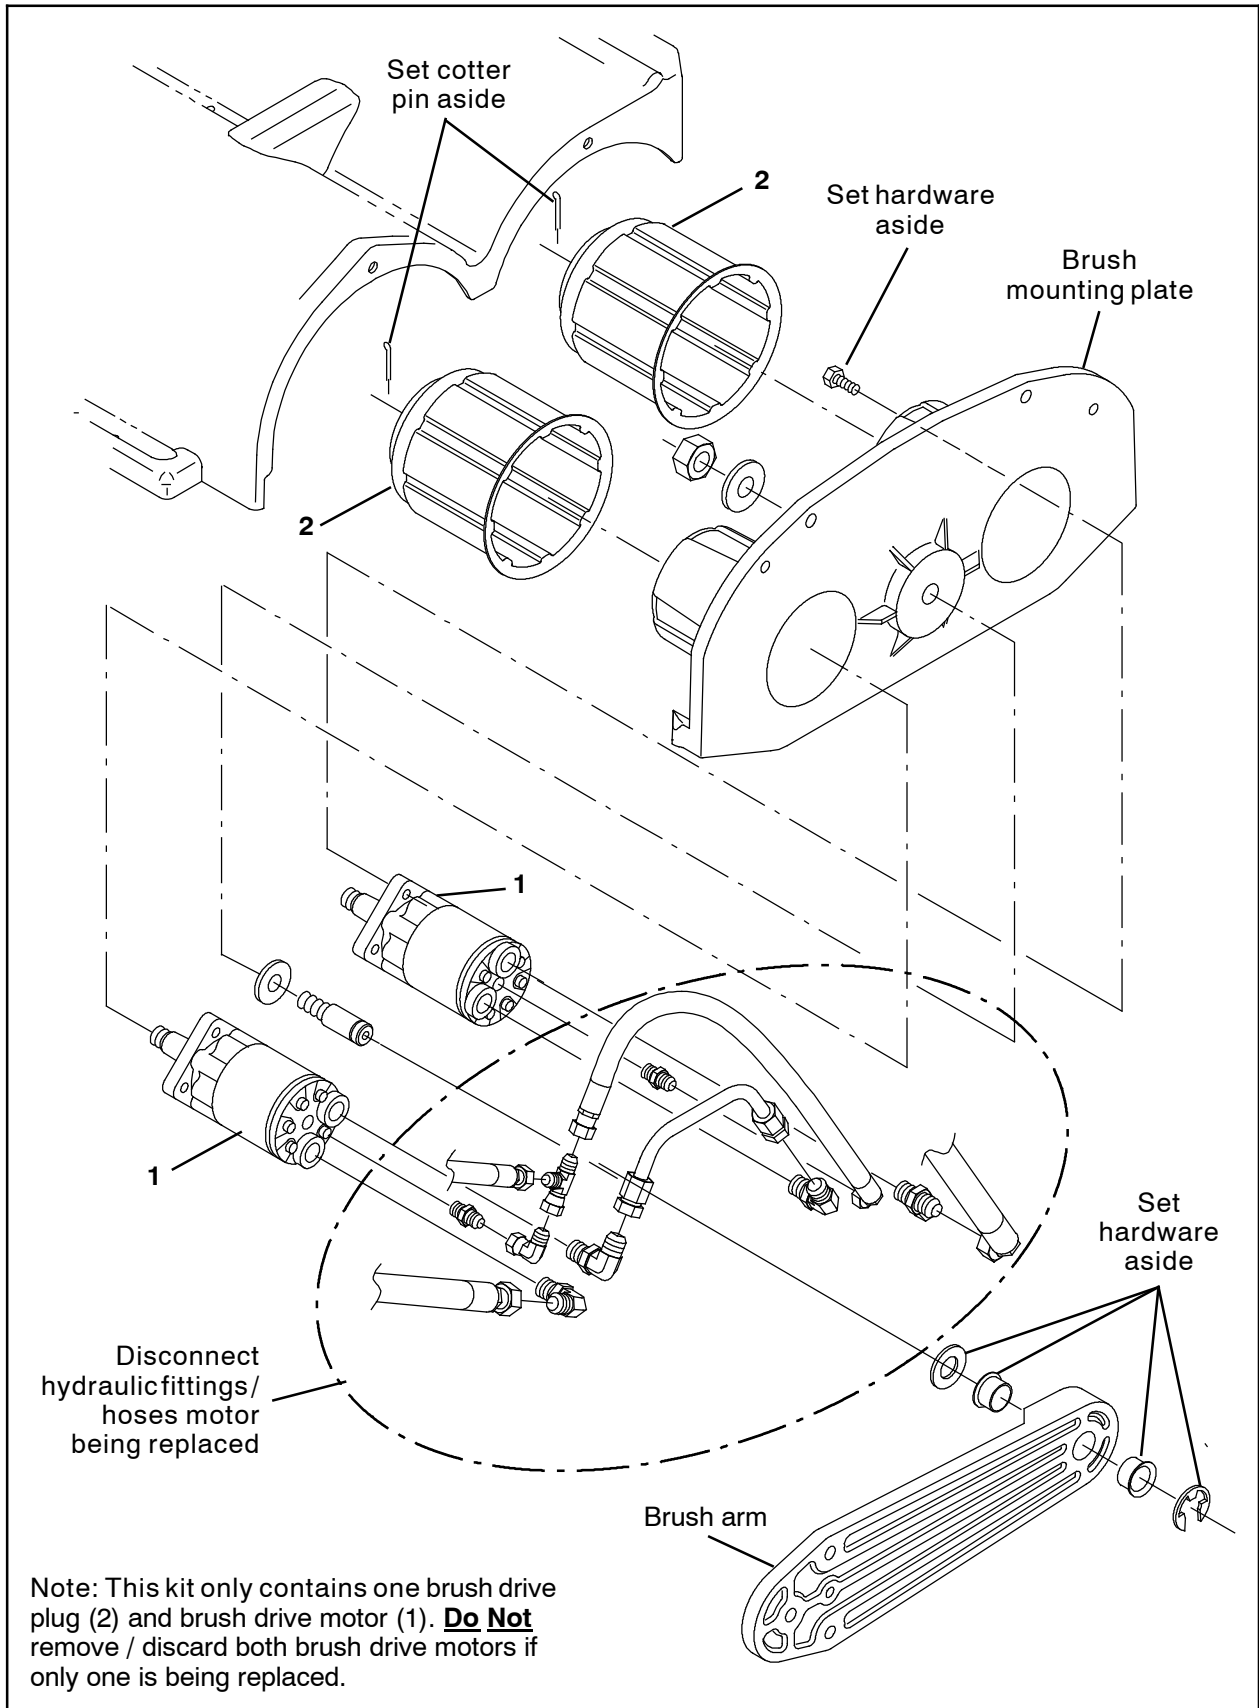

FIG. 5 - 7400
*NOTE: Refer to Fig. 5 to install the brush drive motor (1) and brush drive plug (2) onto the 7400.*
8. Install the new brush drive motor (1) onto the brush mounting plate.
9. Install the key into slot on brush drive motor (1) shaft.
10. Install the brush drive plug (2) onto the brush drive motor (1) and brush mounting plate.